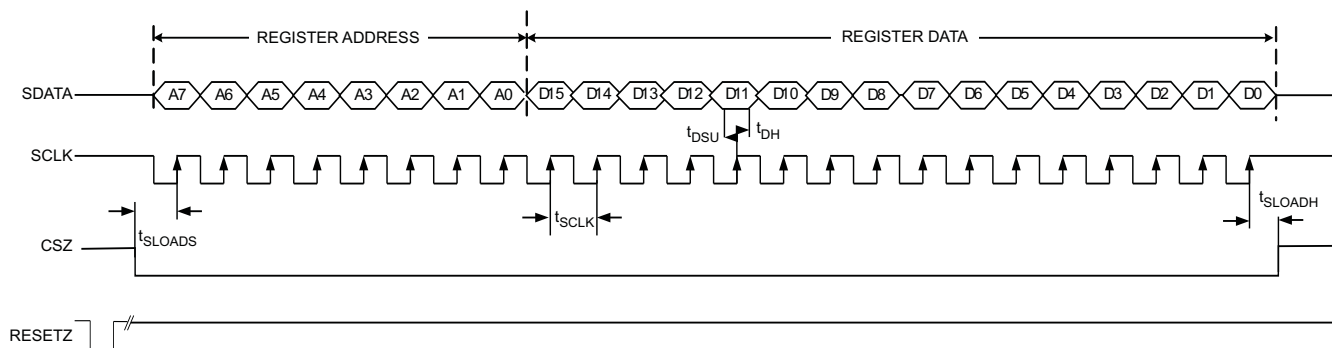

Figure 62. Serial Interface Timing
1. Through a hardware reset by applying a low-going pulse on the $\overline{\text{RESET}}$ pin (of width greater than 10 ns) as shown in Figure 62.